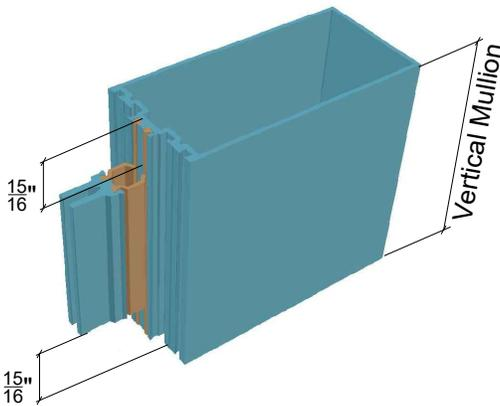
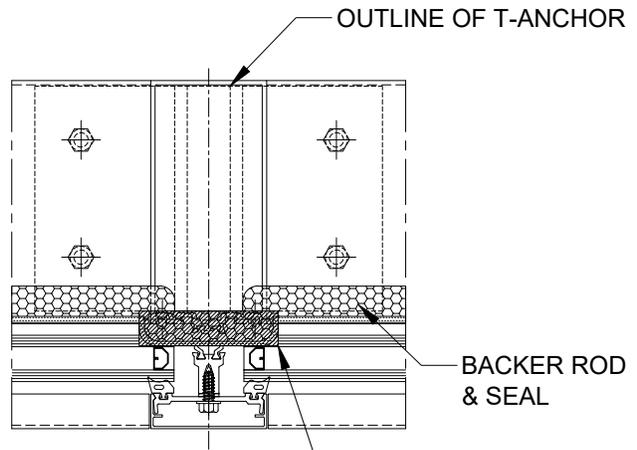

Fig. 1 (Notch struts & mullion extension $\frac{15}{16}$ ")
Fig. 2 (Backer rod & seal continuity diagram - plan view)
- 1.3 All vertical mullions to have nose & struts notched as shown in **Fig. 1** at the top and bottom. This is to provide option for continues pocket filler, continuity of an airseal silicone membrane and/or shelf anchoring. For the F/T anchoring (subject to the project requirements), anodized aluminum plate 'End Cap' is to be used by the installer to insure continuity of backer rod and seal. (**Fig. 2**)